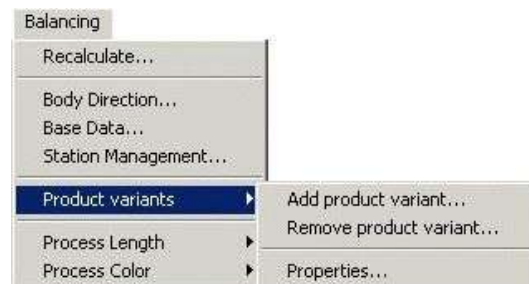

Figure 219: Product Variants Menu
- 1) In the Product variant menu select the menu item **Add product variants** in order to add variants. The process graphs of the possible product variants are displayed in the upper window of the dialog. *Please refer to the Figure 219 and Figure 221.*